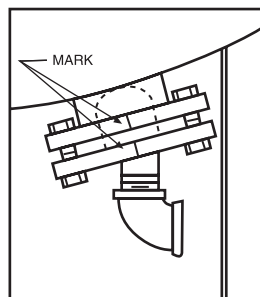

Figure 3
6. Unbolt and remove system connection after marking flanges (Figure 3).
22. Rebolt system connect after aligning flange marks (Figure 3). Torque to 40-50 ft. lbs.